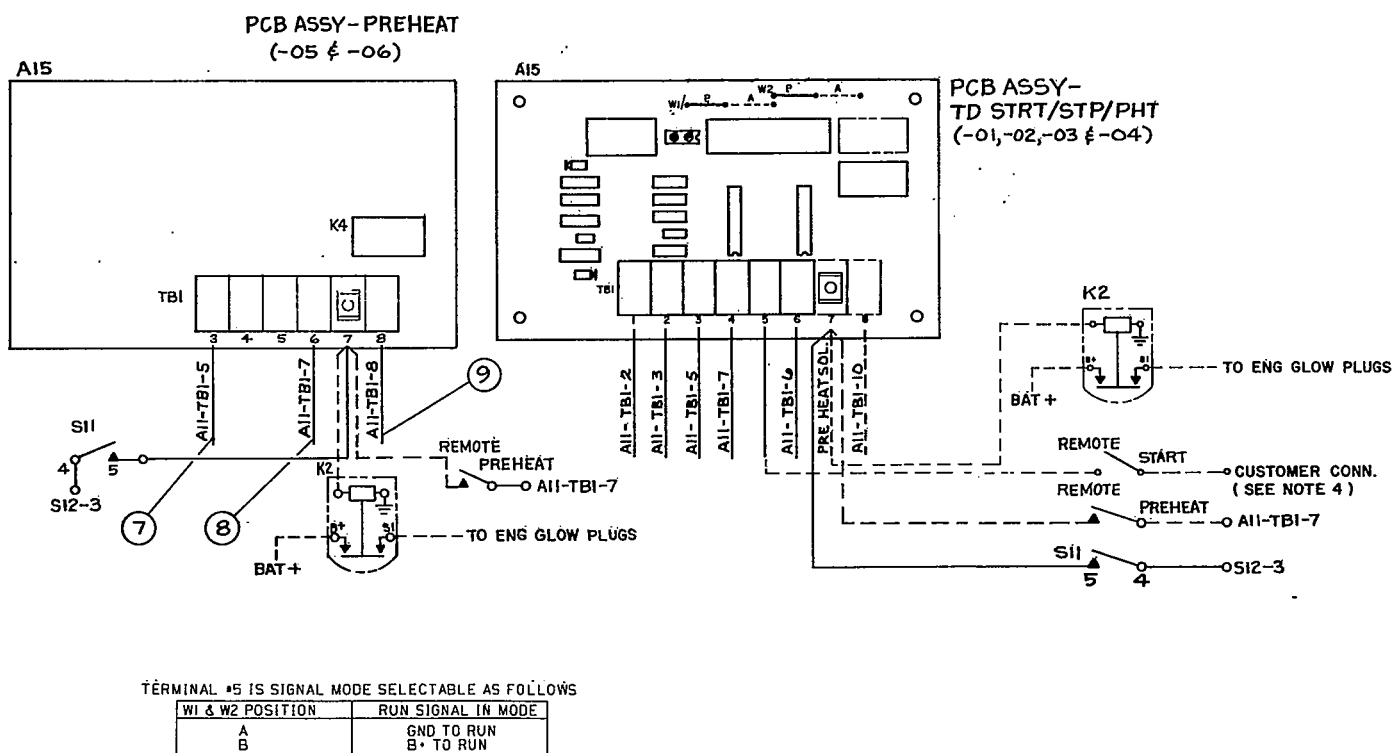

FIGURE 4-3. TIME DELAYED START/STOP AND PREHEAT MODULES
1. Preheat Module. This is a printed circuit board assembly mounted on pedestals by screws inside the control cabinet as shown by Figures 3-1 and 3-2. It is for remote, automatic control applications of diesel gensets equipped with glow plugs. The module powers the glow plug solenoid, which powers the glow plugs during the start delay period, during engine cranking and during rest periods if the cycle crank feature is provided. Figure 4-3 is a typical wiring schematic.
It is for remote, automatic control applications where it may be desirable to delay starts because the installation is subject to frequent power interruptions of short duration. The module is adjustable to delay starts from 1 to 15 seconds. It is also desirable to allow the engine to cool down by running for 3 to 5 minutes without load before stopping. The module is adjustable to delay stops from 1 to 30 minutes. Figure 4-3 shows typical wiring schematics.